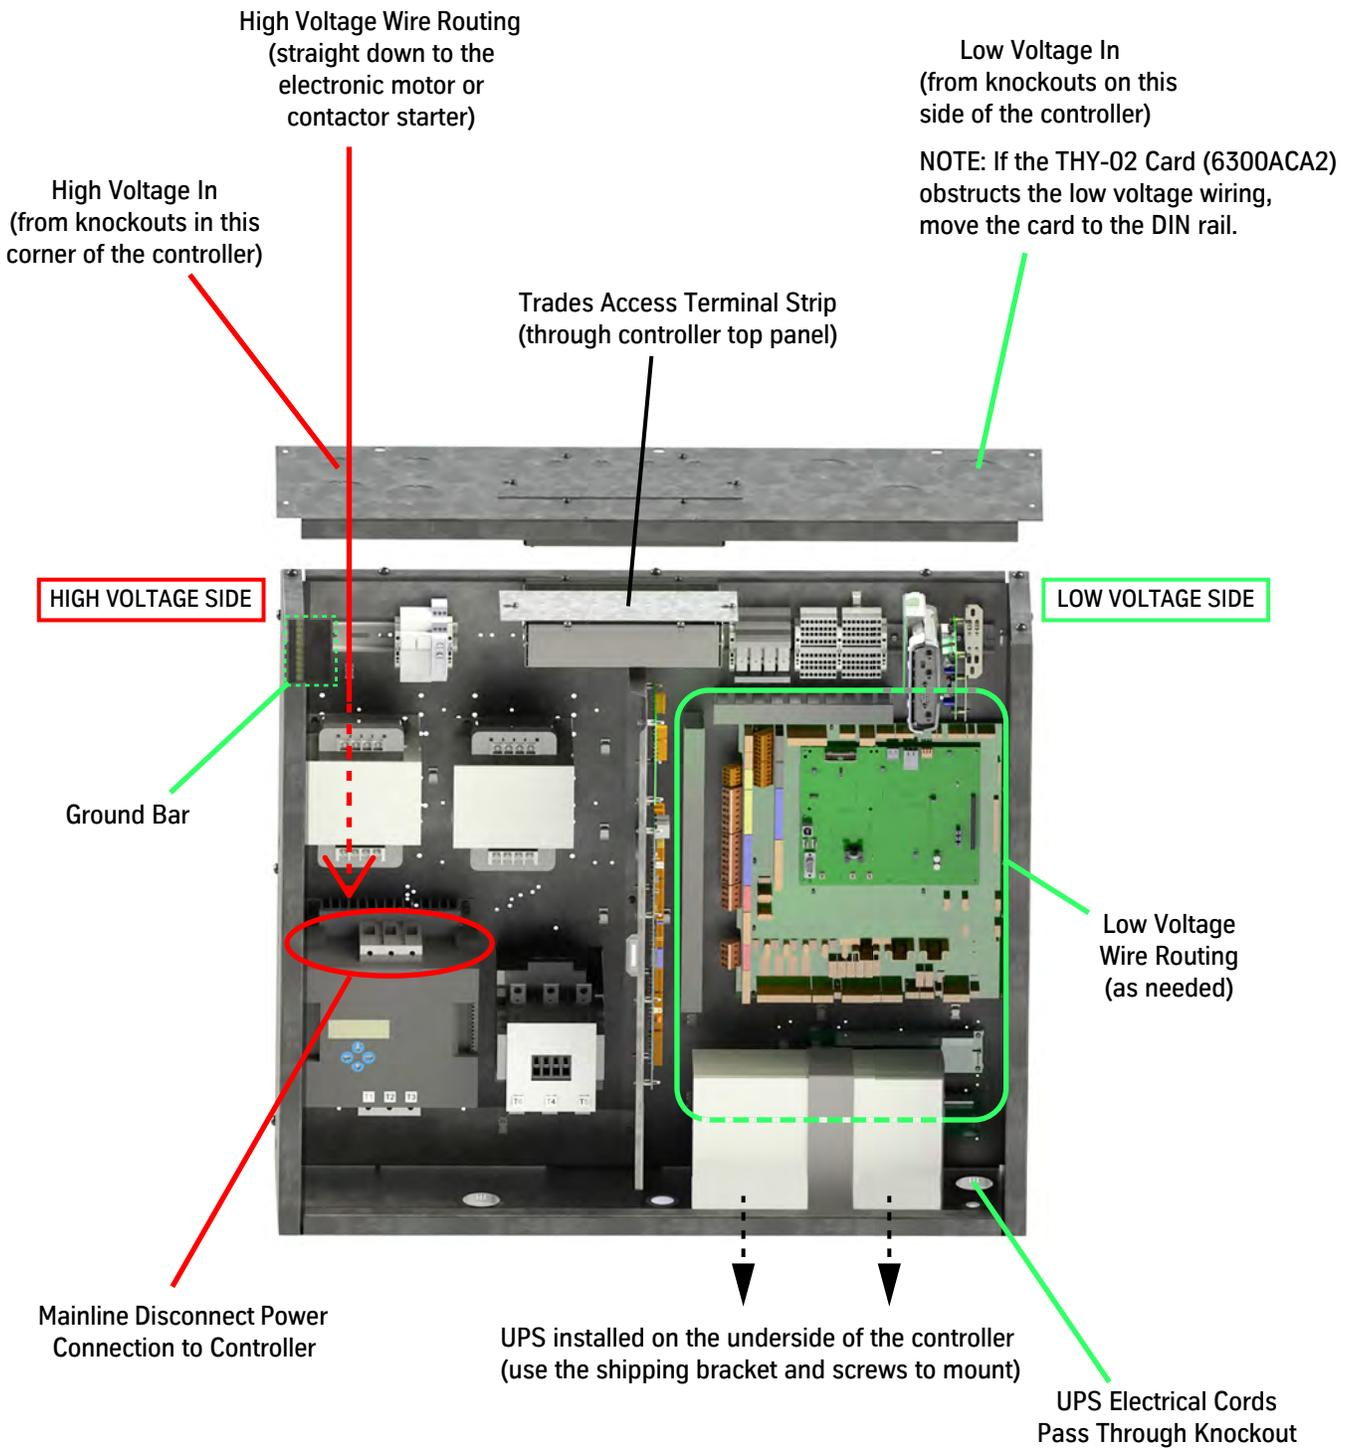

Figure 2 - Power from Mainline Disconnect to the Controller
2. Pipe and install power from the mainline disconnect to the controller. See Figure 2 on page 1-4.